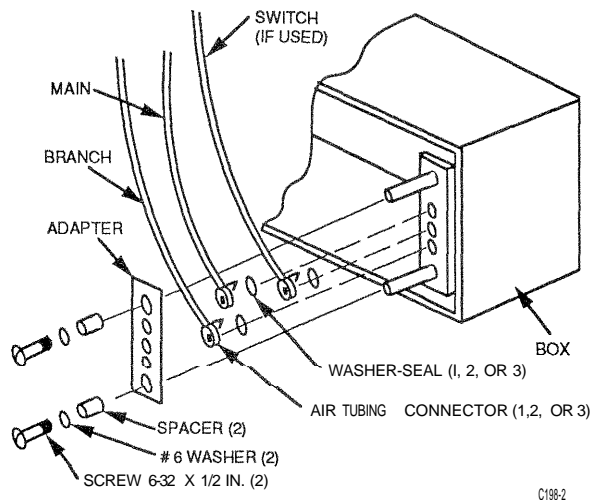

Fig. 1. Adapter Connections.
1. Attach the air tubing connectors to the adapter (Fig. 1).
3. Mount the adapter, air tubing connectors, and washer-seals to the box (Fig. 1). Make sure the air tubing connectors are aligned with their respective outlets.